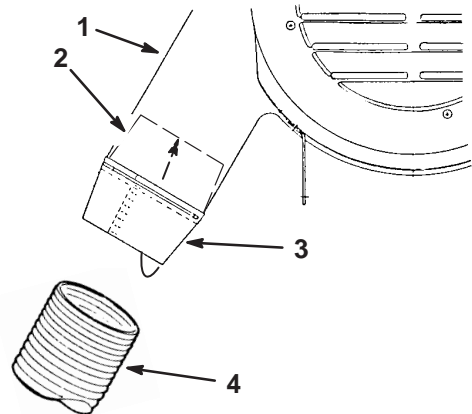

Figure 19
5. Fold the seal into the top assembly inlet and install the discharge hose. The seal should remain folded inside the top assembly inlet to prevent blowout (Fig. 19).